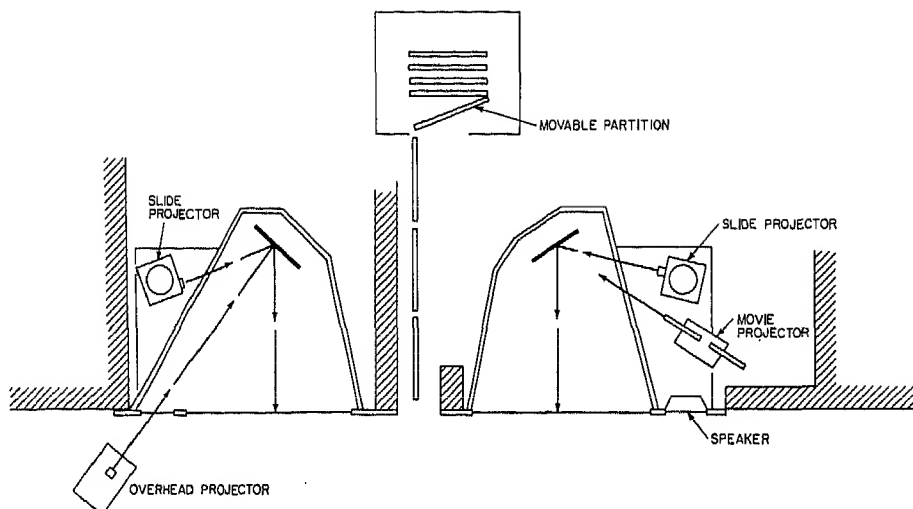

Fig. 14 An arrangement of two enclosed rear projection systems serving a single large room.
**Fig. 14** General type styles with maximum readability. 1/2" cap height is legible up to 25', 3/4"-1" cap height is legible up to 50', 1-2" cap height is legible up to 100'.
These variations can accommodate different functional requirements, spatial limitations, and image-quality parameters. Figures 14, 15, 22, and 23 illustrate some of the possible arrangements. User requirements and job conditions will guide the A-V engineer in the design of a specific system.